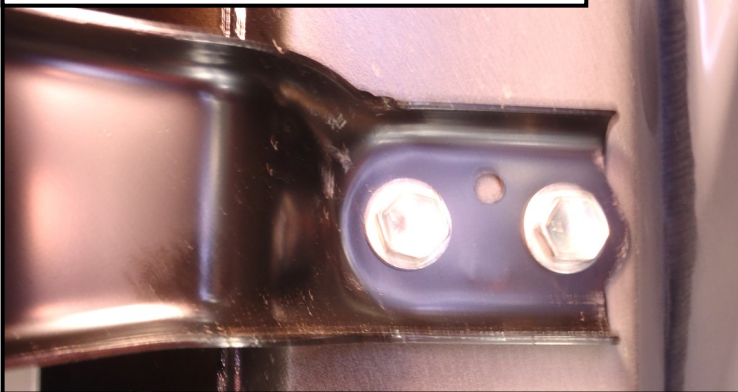

Figure 3 Driver side rear rocker panel bracket cap screws
- Follow the same steps to loosen the center rocker panel hex head cap screws and remove the rear rocker panel hex head cap screws. (Figures 3 & 4). **Note:** On 2014+ SR5 and 2010+ Trail models do not need to loosen the center cap screws.